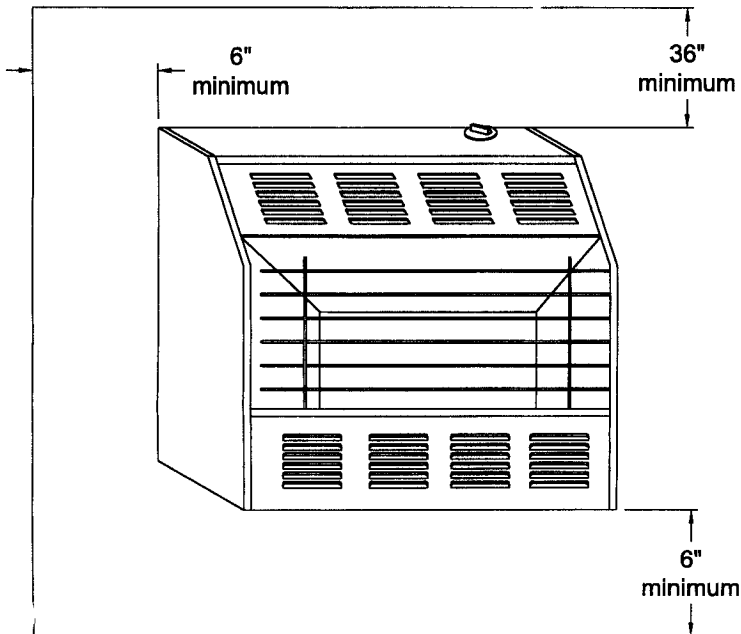

FIGURE 3
3. Figure 7 details the mounting bracket positions. This assures proper side clearances once the heater is mounted on the wall. Use the paper template to locate the bracket height. See Figure 3 on page 7.